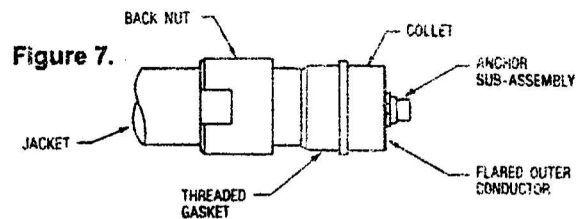

Figure 7.
- Thread the anchor sub-assembly into the center conductor and lightly tighten with a 3/4" open end wrench, then tighten the anchor sub-assembly screw with a 5/32" Allen Wrench. See Figure 7.
- Thread the gasket up to the collet. Apply a light film of grease to the threaded gasket. Slide the backnut forward and over the threaded gasket and collet. See Figure 7.